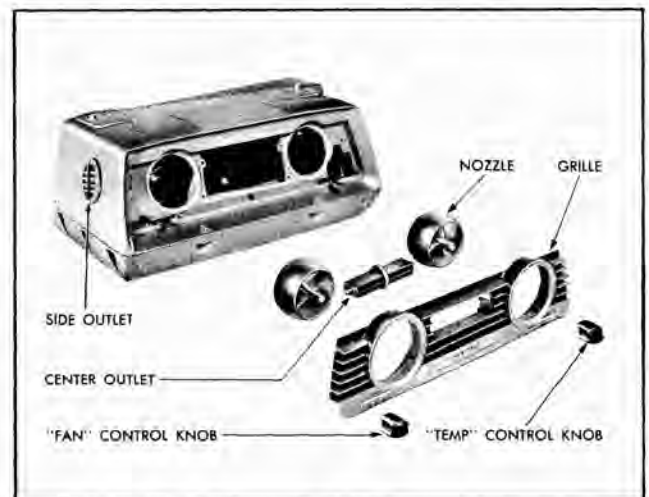

Fig. 6-24 Grille and Nozzles—Exploded View
3. Remove grille to gain access to nozzles and center outlet (Fig. 6-24).